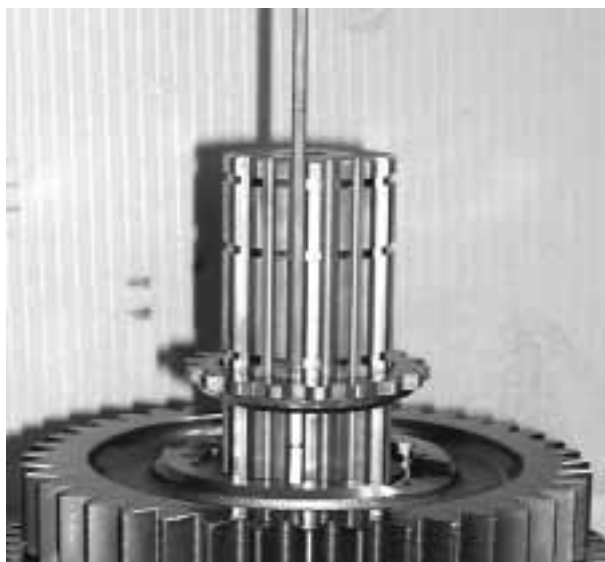

Figure 64 – Installation of Three Sided Key
- n.** Position the three sided key into the same spline groove as the plastic line so that the end of the key is sitting on the end of the line. Slowly pull the line out and at the same time follow it down with the key (refer to Figure 64).